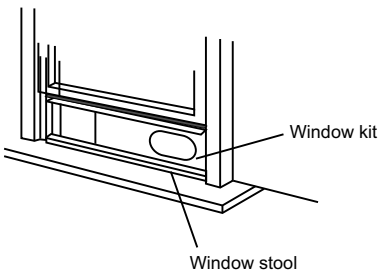

Fig.10
3. Cut the foam seal (adhesive type) to the proper length and attach it on the top of the window. Shown as in Fig.10